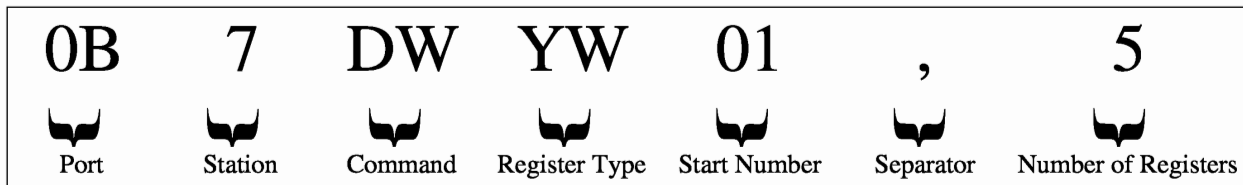

Figure 3-42 Example 4 of Remote Variable Address
**Note 4:** Example in figure 3-42 shows a 'Device/Register